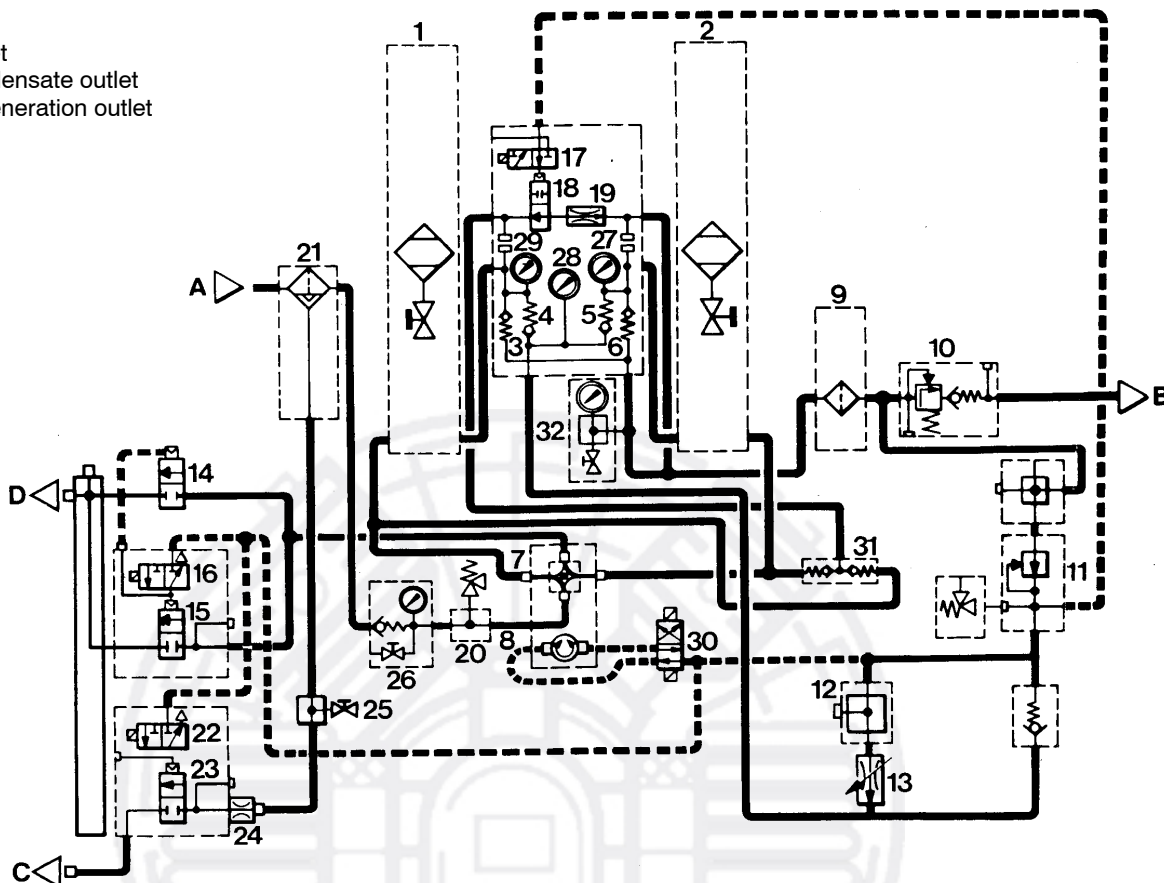

Fig. 4 Standard flow diagram, example SECCANT IV
The following position numbers refer to standard air flow diagram SECCANT IV, Fig. 4. For detailed information, also see air flow diagram corresponding to your dryer type in the annex.
Drying phase and regenerating phase occur simultaneously during one cycle, i. e. while the drying phase is taking place in filter (1), as shown in flow diagram Fig. 4, the regeneration phase is taking place in filter (2). For that purpose a small amount of the compressed and dried medium is deviated after particle filter (9) and expanded by pressure reducer (11) to approx. 10 bar (145 psi). This pressure is monitored by safety valve (12).